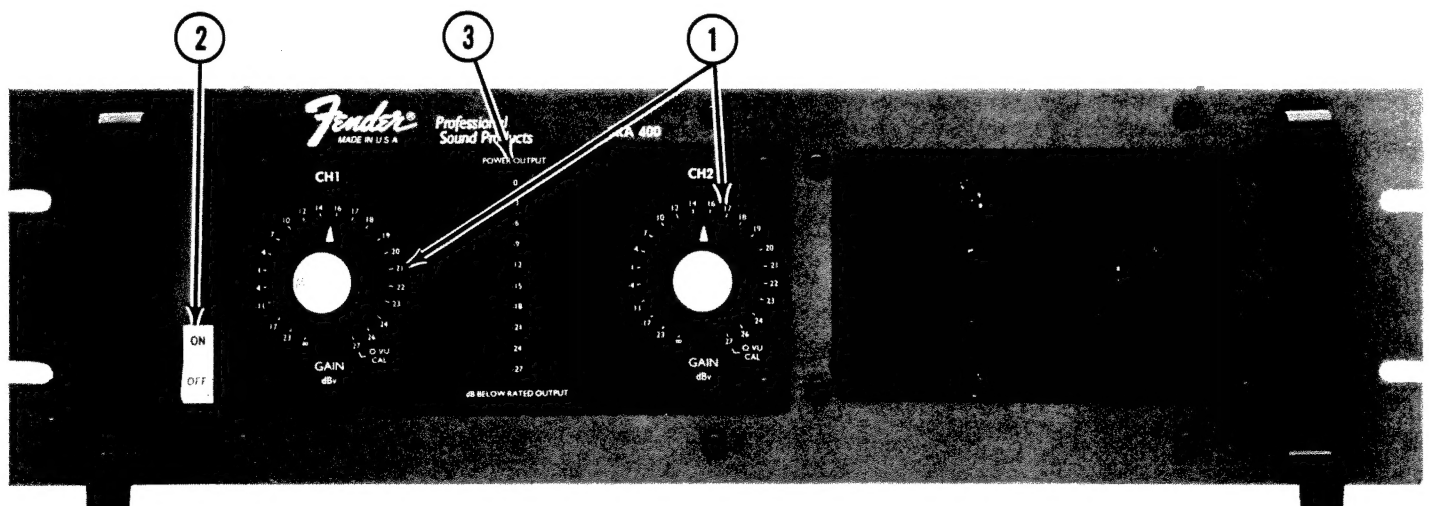

FIGURE 1 — Front Panel
Input Attenuators (Fig. 1 – Item 1)
CIRCUIT BREAKER/POWER SWITCH (Fig. 1 – Item 2)
(Fig. 1 – Item 2)
POWER OUTPUT DISPLAYS (Fig. 1 – Item 3)
4. Turn the power switch on (Fig. 1 – Item 2). The switch's internal lamp will light up, and the fan will begin to operate.